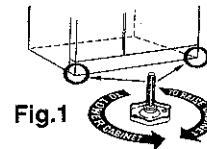

Fig. 1
- Refrigerator models that have four wheels and a leveling screw beneath each front corner at the base of the cabinet can be adjusted by turning in or out as required (see Fig. 1).